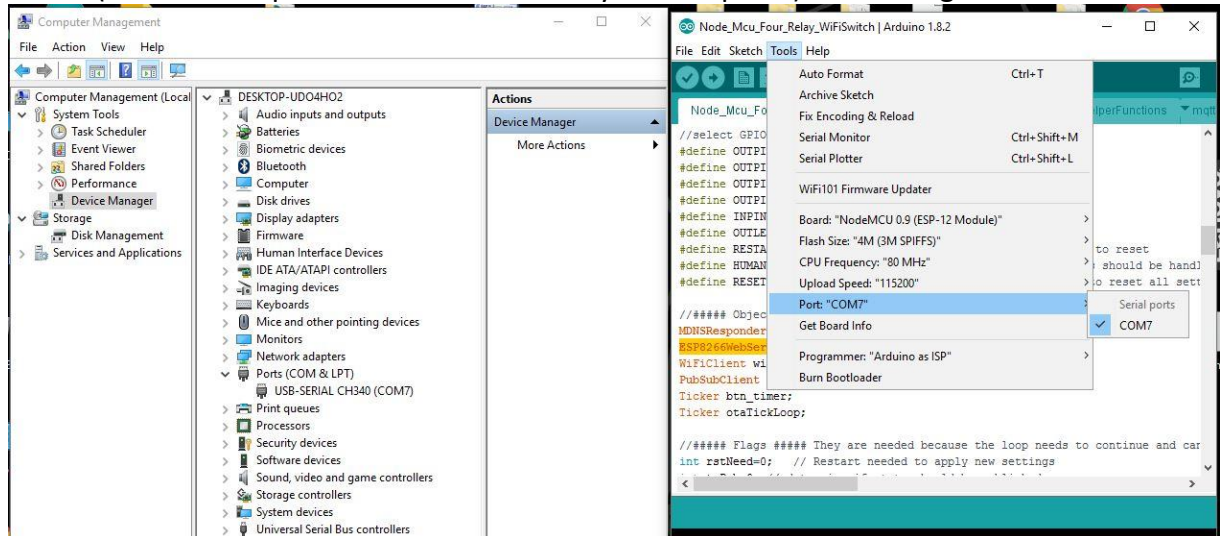

Figure 12: COM port selection.
11. Click on tools tab, move mouse pointer to “Port: “COMx”, under this click on “COMx” to select. (“x” refers to port number available in your computer) Refer to figure 12.